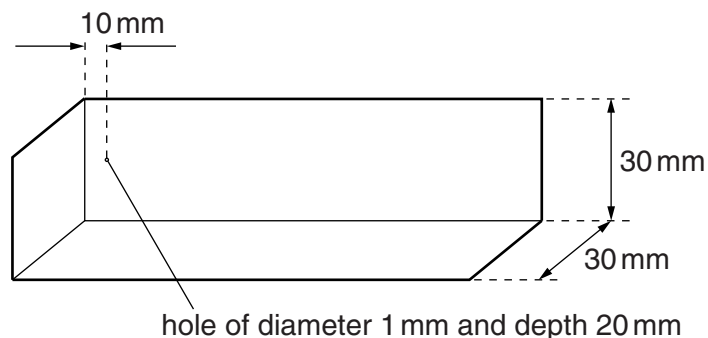

Fig. 2.2
- 2 A hole of diameter 1 mm should be drilled to a depth of 20 mm in the wooden block, as shown in Fig. 2.2.